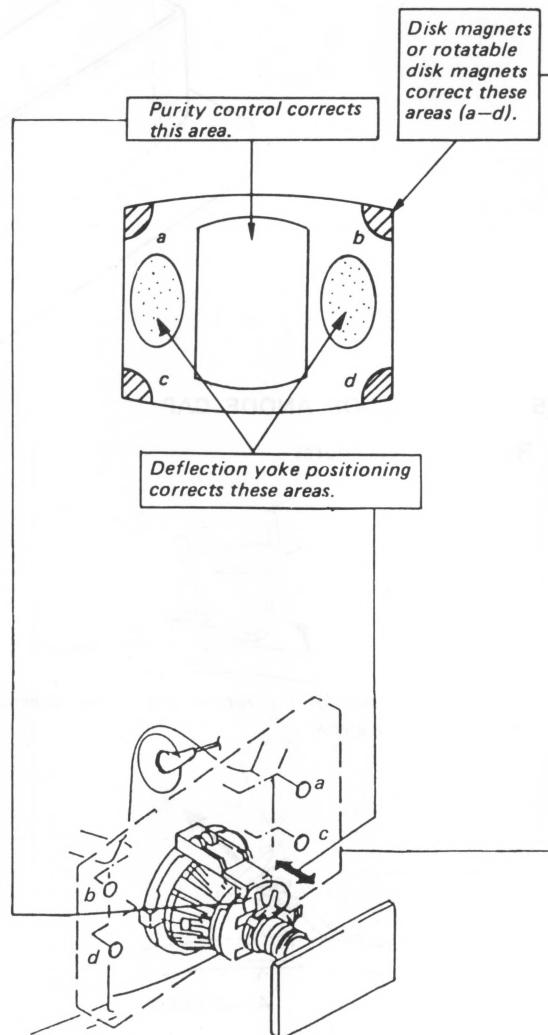

Fig. 3
7. When landing at the corners is not correct, perform magnet correction (Fig. 3).